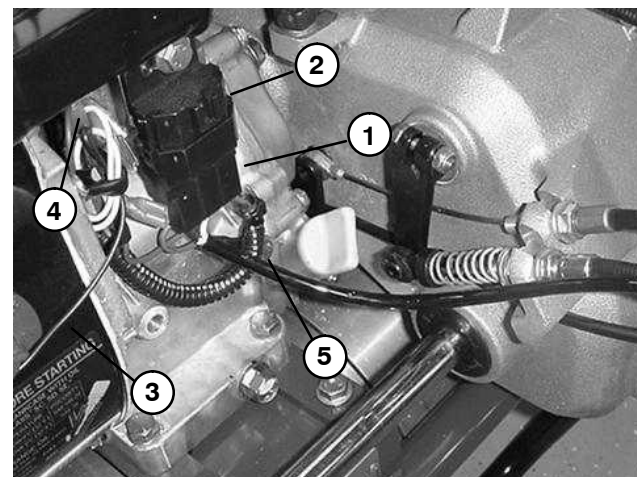

Figure 15
5. Disconnect electrical connections from engine (Fig. 15):
4. Connect electrical connections to engine (Fig. 15):